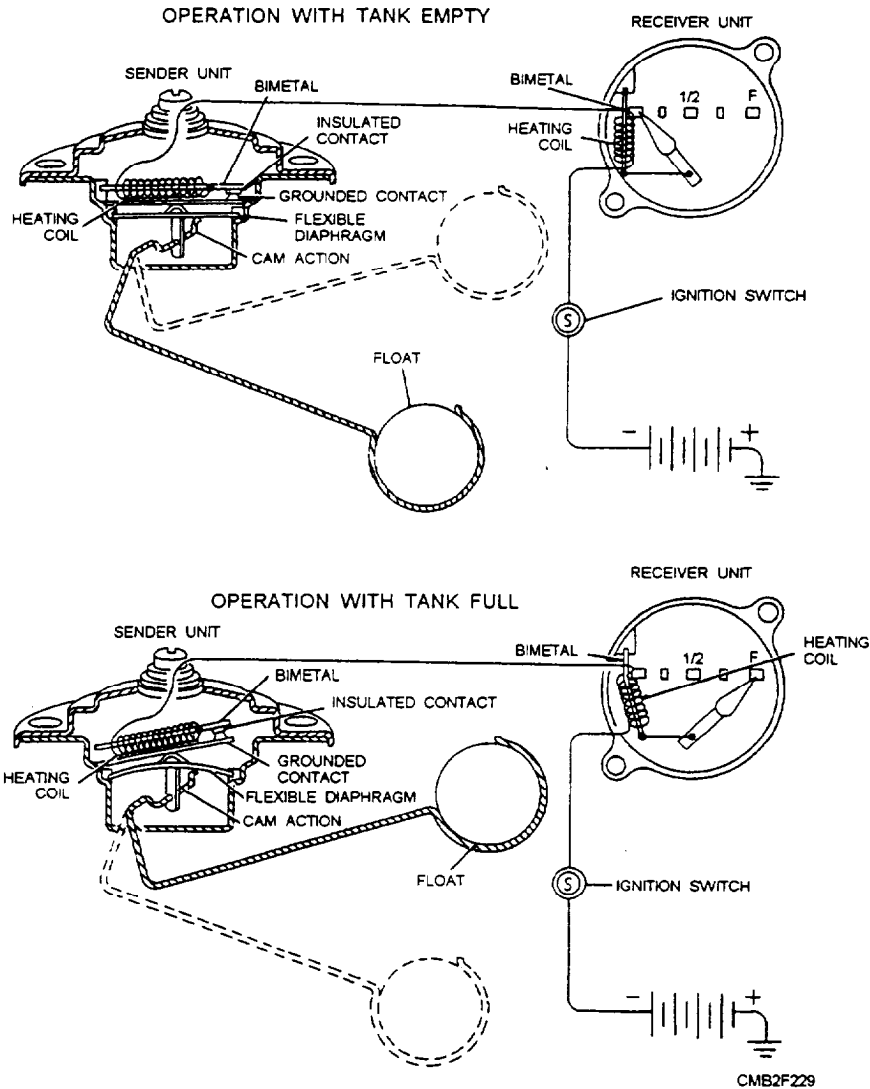

Figure 2-77.—Thermostatic fuel gauge, self-regulating.
- The THERMOSTATIC FUEL GAUGE, SELF-REGULATING (fig. 2-77), contains an electrically heated bimetallic strip that is linked to a pointer. A bimetallic strip consists of two dissimilar metals that, when heated, expand at different rates, causing it to deflect or bend. In the case of this gauge, the deflection of the bimetallic strip results in the movement of the pointer, causing the gauge to give a reading. The sending unit consists of a hinged arm with a float on the end. The movement of the arm controls a grounded point that makes contact with another point which is attached to an electrically heated bimetallic strip. The heating coils in the tank and the gauge are connected to each other in series.